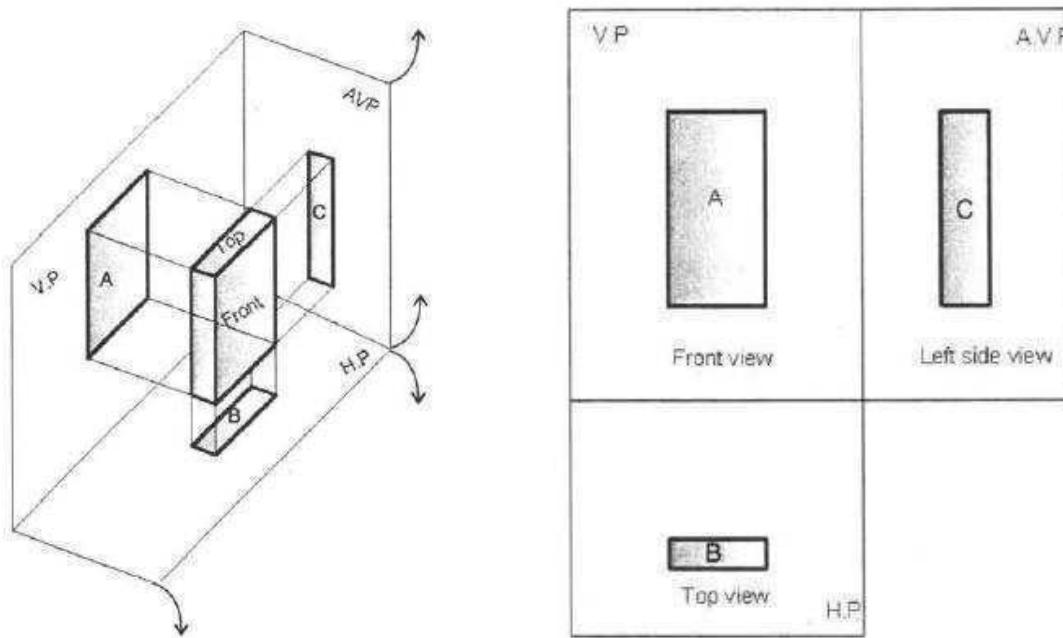

Fig. 2.4 Orthographic Projection of Front, Top and Side views
In the Figure 2.4 the object is in the first quadrant and the projections obtained are "First angle projections" i.e., the object lies in between the observer and the planes of projection. Front view shows the length (L) and height (H) of the object, and Top view shows the length (L) and the breadth (B) of it.